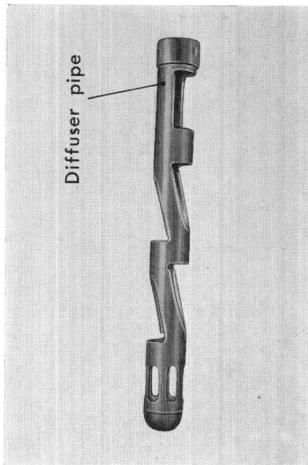

Figure 6-40. Cleaning diffuser pipe
- b. Tap the pipe lightly to remove the carbon and then wash in solvent or gasoline (Fig. 6-40). The clogging of the diffuser pipe will cause a drop in the engine power output. A loose connection at the gasket joint will produce undetectable noise from leaking exhaust gas.